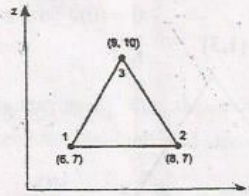

Figure 5
- (b) Calculate the element stiffness matrix for the axisymmetric triangular element shown in Fig 5. The element experiences a 15°C increase in temperature. The coordinates are in mm. Take $\alpha = 10 \times 10^{-6}/^\circ\text{C}$, $E = 2 \times 10^5 \text{ N/mm}^2$, $\nu = 0.25$. (16)